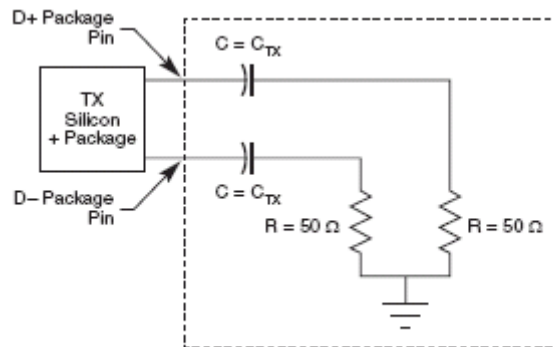

Figure 51. Compliance Test/Measurement Load
1. Specified at the measurement point into a timing and voltage compliance test load as shown in Figure 51 and measured over any 250 consecutive TX UIs.
2. Specified at the measurement point into a timing and voltage compliance test load as shown in Figure 51 and measured over any 250 consecutive TX UIs.
1. Specified at the measurement point and measured over any 250 consecutive UIs. The test load in Figure 51 should be used as the RX device when taking measurements. If the clocks to the RX and TX are not derived from the same reference clock, the TX UI recovered from 3500 consecutive UI must be used as a reference for the eye diagram.
2. Specified at the measurement point and measured over any 250 consecutive UIs. The test load in Figure 51 should be used as the RX device when taking measurements. If the clocks to the RX and TX are not derived from the same reference clock, the TX UI recovered from 3500 consecutive UI must be used as a reference for the eye diagram.
The AC timing and voltage parameters must be verified at the measurement point, as specified within 0.2 inches of the package pins, into a test/measurement load shown in Figure 51.